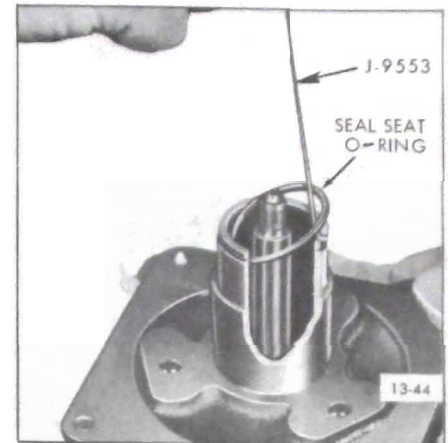

Figure 13-67 Removing Seal Seat "O" Ring
9. Remove the seal seat "O" ring, using Tool J-9553 (see Figure 13-67).